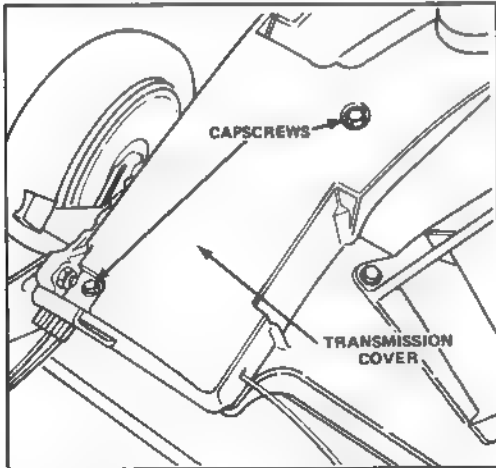

Figure 27
2. Remove two capscrews and lift off transmission cover (Fig. 27).